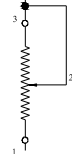

Figure 2B
2. The best way is to use the potentiometer as a four-terminal element for adjusting voltage of voltage divider. For wiring, you'd better choose terminal “1” for grounding and Rl (the load resistance of the potentiometer) should be not smaller than ten times as Rr (the nominal resistance). Except for special design requirement, the potentiometer shouldn't be used as a two-terminal rheostat. The contact resistance between the resistor and the contact piece will hinder the passing of big electric current, at the same time, the current at the moving contact may be too big since only part of the effective travel is in function and lead to local over loading then failure of the unit. (See figure 2B)